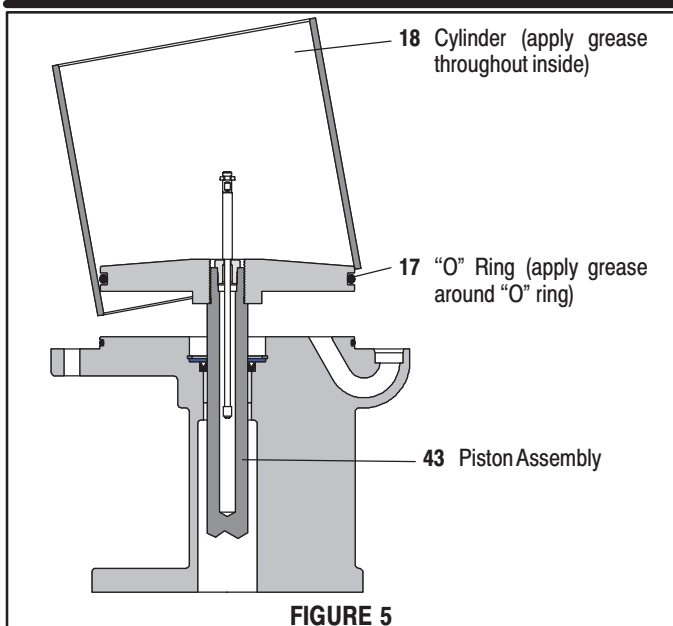

FIGURE 5
- Place the (14) screw onto the (19) valve rod. The threaded end of the screw should be down, away from the threaded end of the valve rod.
- While holding the (19) rod assembly below the threads with locking type pliers, clean threads with solvent and apply Loctite 271 to the threads and attach the (11) extension rod.
- Place the (19) valve rod into the hole in the end of the (43) piston assembly and screw the (14) screw into the (43) piston assembly.
- Thoroughly grease and install the (16) "O" ring in the (26) air motor base and bearing assembly.
- Place the (25) "U" cup packing, (24) guide washer and the (21) retaining ring in the (26) air motor base and bearing assembly.
- Grease and install (13) "O" ring on the (41) lower gland.
- Grease the bore in the (35) head assembly and insert (41) lower gland into the bore of the (35) head assembly with a twisting motion.
- Align the bolt holes in the (41) lower gland and (35) head assembly and secure with four (40) screws.
- Push the (43) piston assembly through the (25) "U" cup packing in the (26) air motor base and bearing assembly being careful not to damage the "U" cup packing.
- Thoroughly grease the inside of the (18) cylinder.
- Apply grease to (17) "O" ring, then insert into the bottom of the (18) cylinder, as shown in figure 5.
- Push the (43) piston assembly to the top of the cylinder.
- Thoroughly grease and install the (42 and 16) "O" rings in the (35) head assembly.
- Thoroughly grease the two (36) "O" rings and install one on each end of the (44) tube.